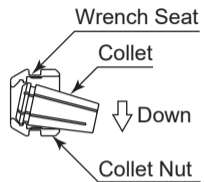

Fig. 17
- ② The collet and collet nut are secured by a groove in the collet and a flange in the collet nut. To remove the collet hold the collet nut in one hand and push diagonally down on the collet. The collet should be released (Fig. 17).
Press the collet in the collet nut by positioning the collet in the collet nut and pressing down on flat surface (Fig. 17).